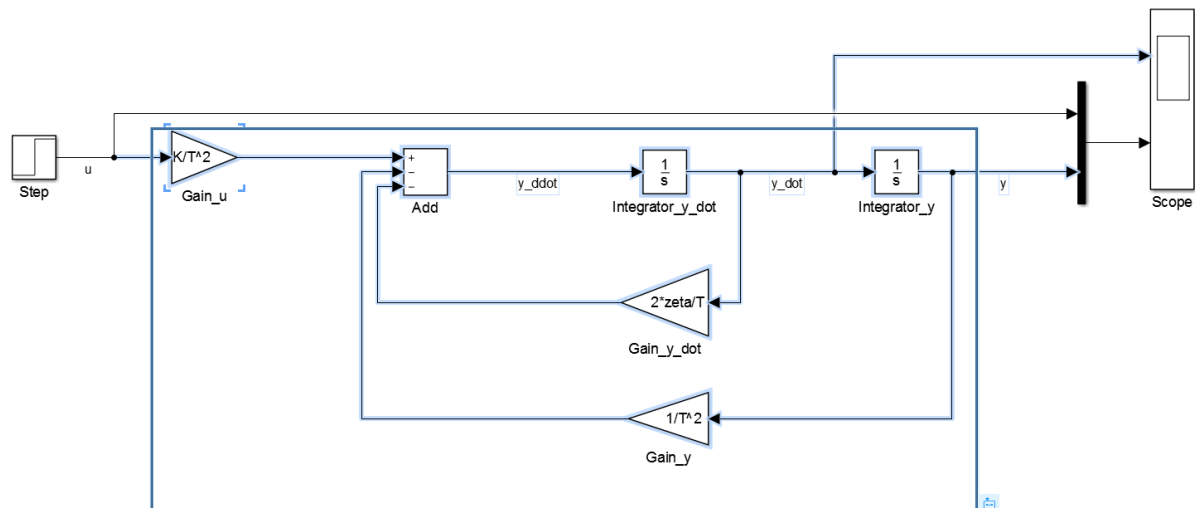

Figure 1-6: marked blocks to be converted into a subsystem
(11) In order to **separate the dynamics from inputs and visualization**, we will now create a subsystem, that only contains the actual dynamics. To do so, mark all blocks, that are relevant to the dynamics, as can be seen in Figure 1-6. Be sure not to select the signal u going to the Mux-Block!